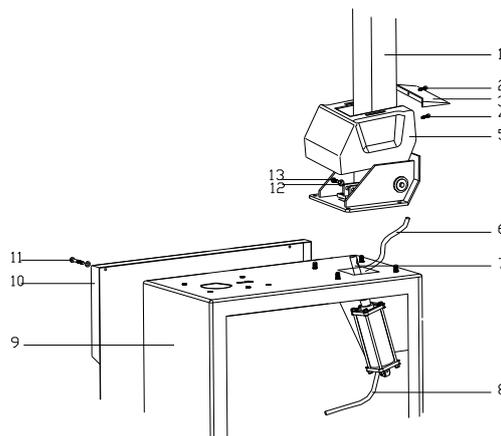

Fig 4
2) Place the column (1, Fig 4) on the body (9, Fig 4) with 4 bolts, push air hose (6, Fig 4) through the hole of the column. Tighten 4 self-locking nut.
3) Insert screw (13, Fig 4) into the hole of column and connect the pin (7, Fig 4) of the tilting cylinder, tighten it with self-locking nut (12, Fig 4).
4) Unscrew two screws (11, Fig 4) on the left cover (10, Fig 4) and remove the cover, connect air hose (8, Fig 4) from the column to 5-way valve union.
5) Fix the plastic cover (5, Fig 4) with two bolts (4, Fig 4).
6) Mount the plastic back cover (3, Fig 4) on the column with screw (2, Fig 4).